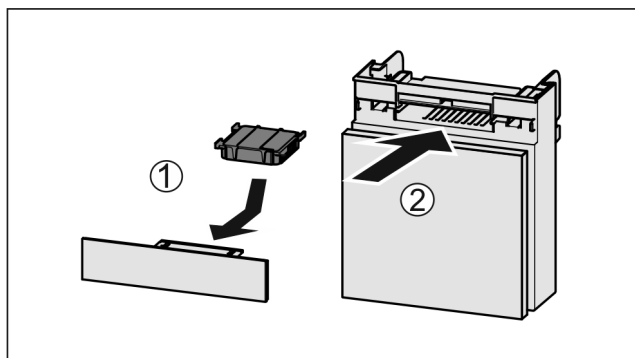

Fig. 84
- ▶ Insert the carbon filter as shown in the diagram Fig. 84 (1).
- ▶ Push the compartment in Fig. 84 (2).